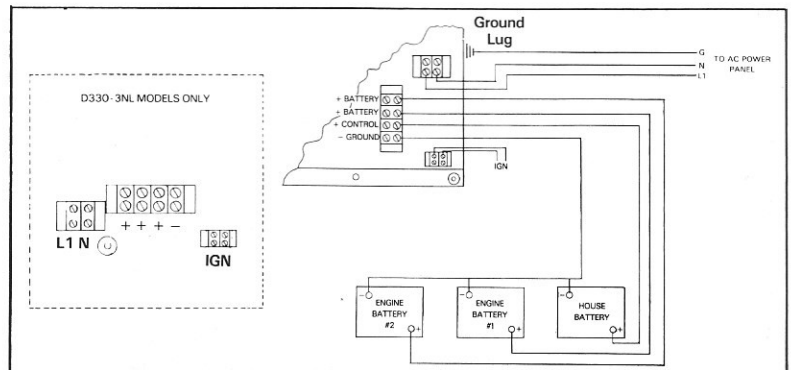

Figure 6. AC and DC Connections. (Drawing)
2. Make AC connections. All Sentry chargers except 115V D330 models require #14 AWG wire with 105 °C insulation for use on AC connections and should be protected by a 15 AMP circuit breaker or time delay fuse. On 115V D330 models use #12 AWG wire with 105 °C insulation protected by a 20 AMP circuit breaker or time delay fuse. Wire terminations should be locking forks or ring terminals. **See Figures 6 and 7.**